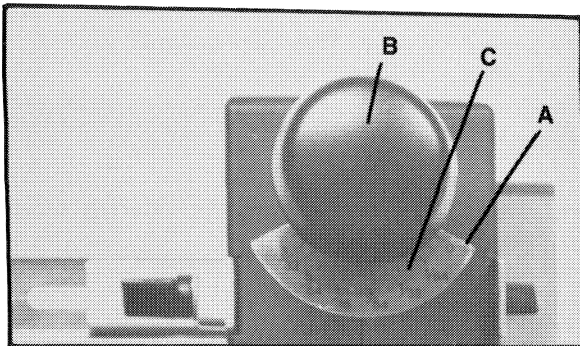

Fig. 2
Depth of cut is adjusted by rotating knob (B) Fig. 2, to align pointer (C) Fig. 2, with the appropriate mark on scale (A) Fig. 2, for depth of cut desired.
The scale (A) Fig. 2, is marked for depth setting of 0" to 5/64". The knob may be rotated beyond the 5/64" setting to a maximum depth of 1/8". It is recommended that settings greater than 5/64" be used only on 1-5/8" or narrower stock.